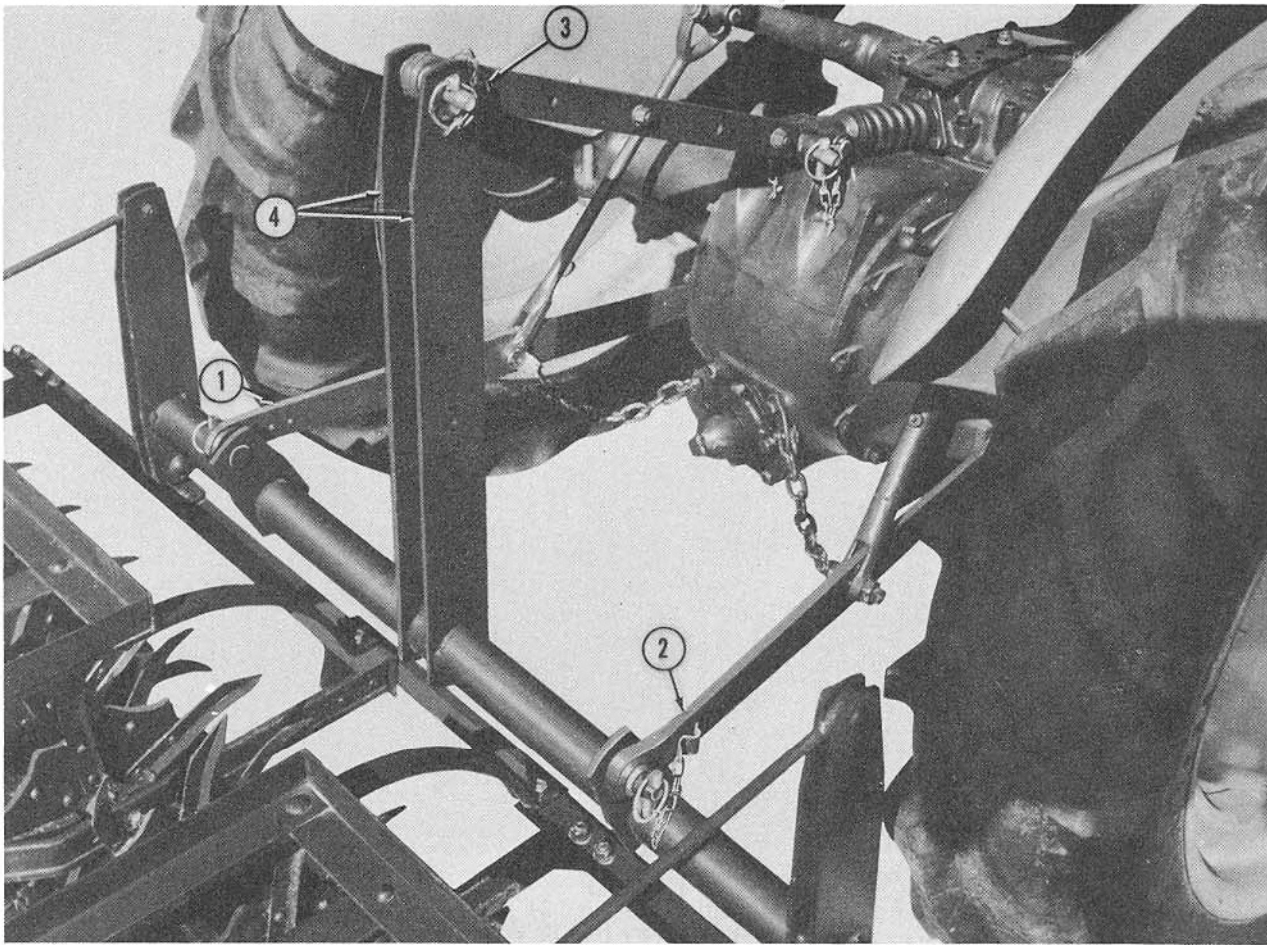

Figure 10
2. Attach tractor lower left link (1), Figure 10, and secure with linch pin.
3. Attach tractor lower right link (2) and secure with linch pin.
4. Attach tractor upper link (3) to the implement drawbar struts (4), and to the tractor main control spring yoke and secure with linch pin.